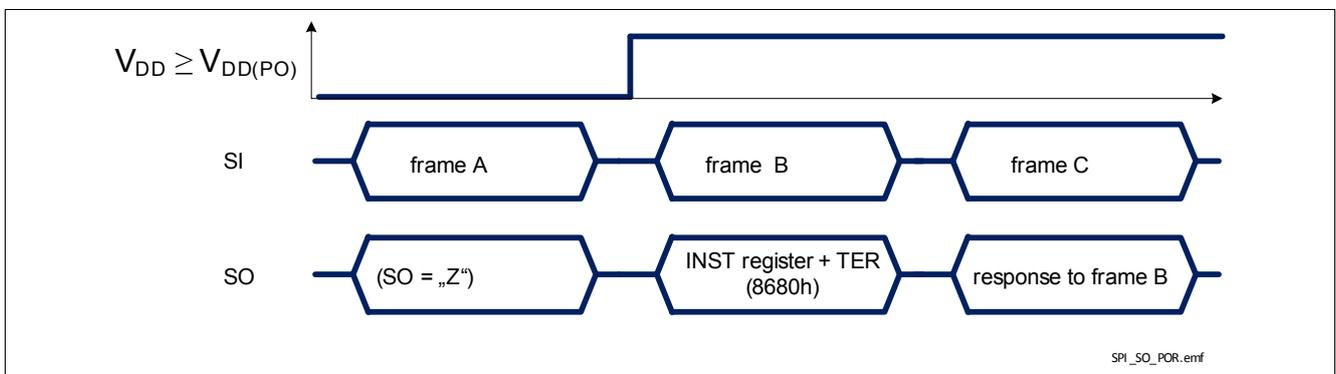

Figure 38 TLE75602-EMH response after coming out of Power-On reset at  $V_{DD}$
- when TLE75602-EMH logic supply comes out of Power-On reset condition or after a Software Reset, as shown in Figure 38